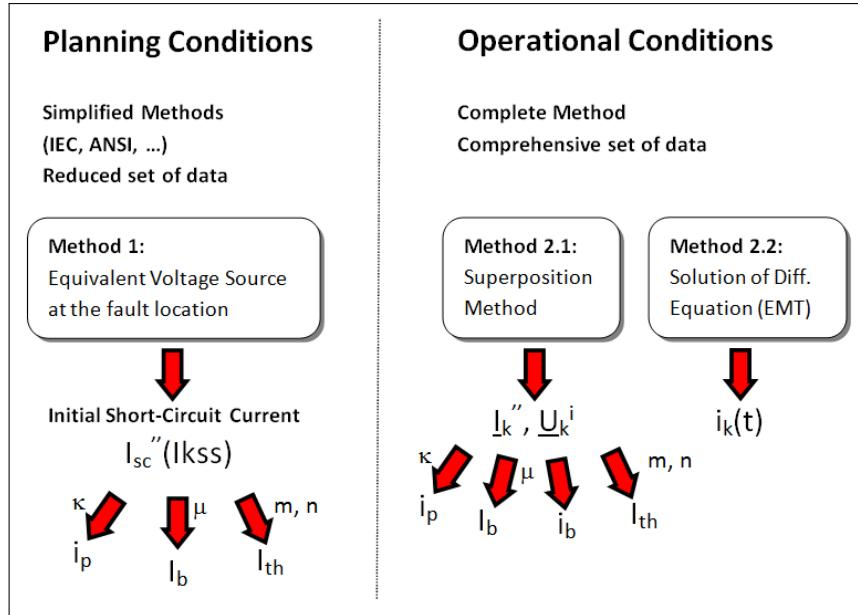

Figure 26.2.1: Areas of Application of Short-Circuit Calculations
According to IEC 60909 [18] the definition of the currents and multiplication factors shown in Figure 26.2.1 are as follows:
As illustrated in Figure 26.2.1, IEC 60909 requires the calculation of the initial symmetrical short circuit current in order to derive the rest of the physical quantities, each of which is a function of the following:
The *Complete Method* for calculating short-circuits has been improved in *PowerFactory* Version 14 as described below. Additionally, the quantities described below are shown in Figure 26.2.1.
- The Thermal Equivalent Short-Circuit Current  $I_{th}$  is calculated based on the IEC standard, using the m and n factors (see Figure 26.2.1). The n-factor calculation uses the transient current instead of the steady-state current;